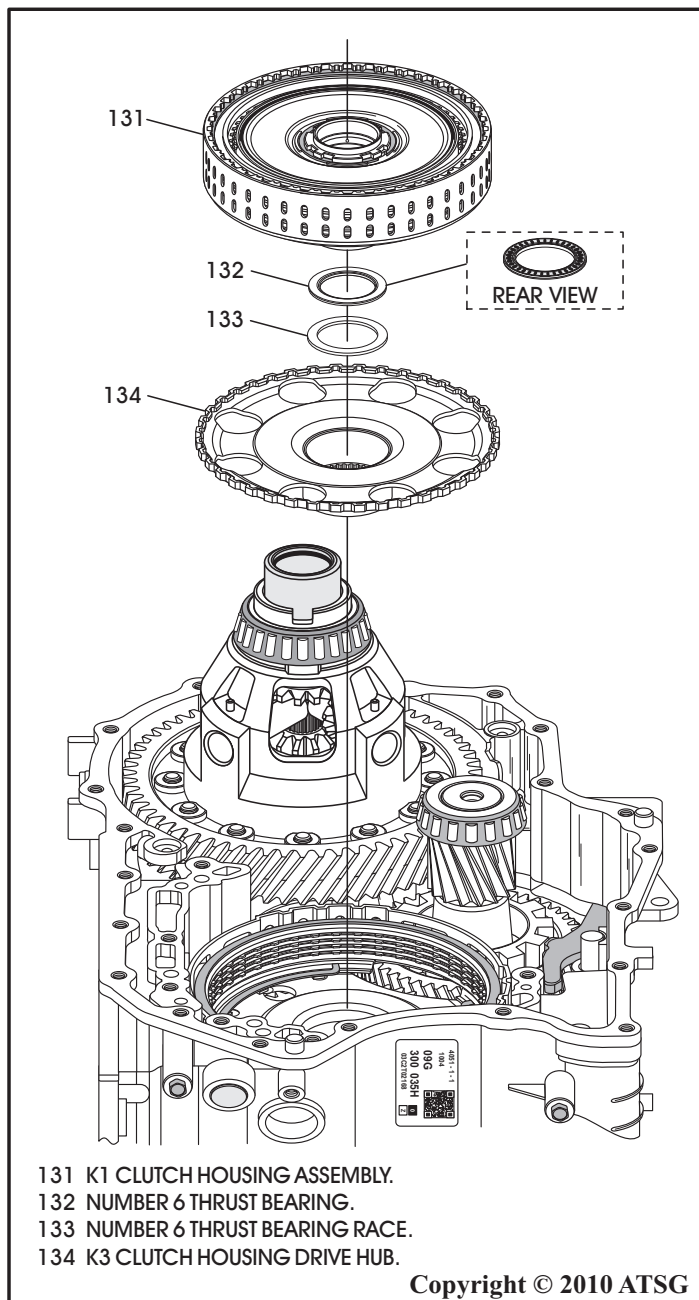

Figure 74
48. Remove K1 clutch housing assembly, as shown in Figure 74, and set aside for the component rebuild section.
49. Remove the K3 clutch housing drive hub, as shown in Figure 74, along with the number 6 thrust bearing and bearing race.